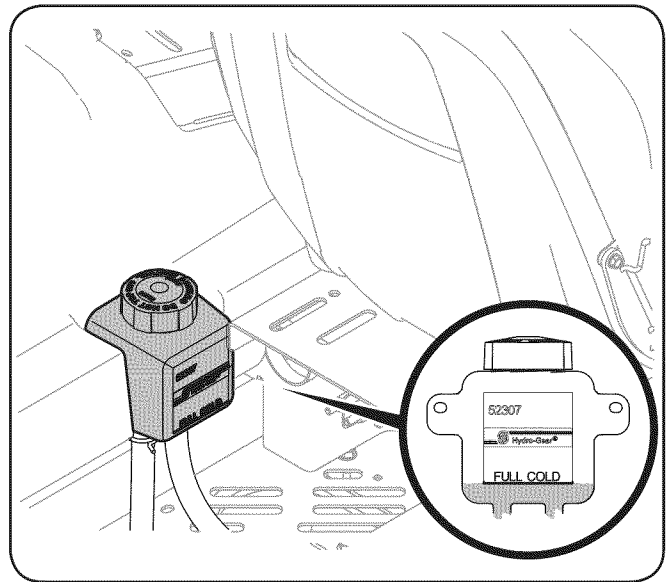

Figure 18
1. Pivot the operator's seat forward and clean the reservoir cap and the area around the cap to prevent debris from contaminating the transmission oil. See Figure 18.
2. Turn the reservoir cap counterclockwise to re-move, then check the oil level in the reservoir. Oil should be visible at the bottom of the cup, but the oil level must NOT be above the "FULL COLD" line. See Figure 18. **DO NOT FILL THE RESERVOIR.**